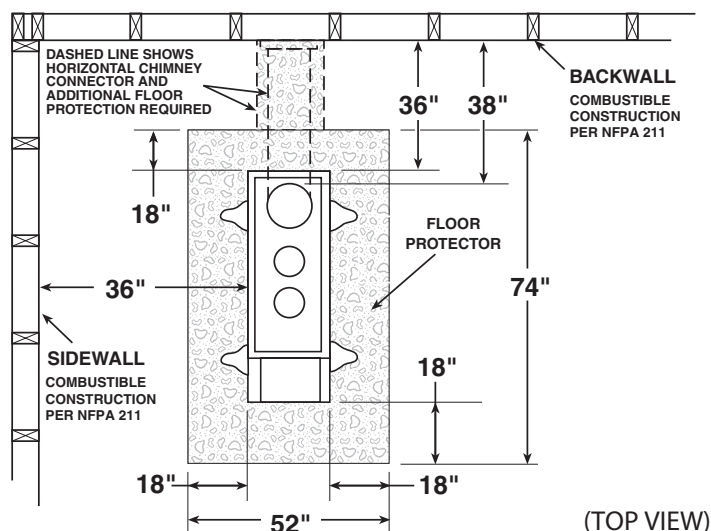

Figure 6 – Minimum Clearance Dimensions from Combustible Surfaces
3. After observing the clearances to combustible materials (figure 6–8), locate your floor protector accordingly and carefully place the stove in your selected location. Install connector pipe, elbows, and thimble as required, utilizing either a recently cleaned and inspected 6" masonry chimney or a 6" i.d. UL 103 HT listed manufactured chimney. Maximum 64 square inches..
4. Use round 6" dia., minimum 24 MSG black or 26 MSG blue steel stove pipe to connect the stove to the chimney. Do not use galvanized stove pipe. Secure connector pipe to the flue collar with three (3) sheet metal screws. Use three screws in each stove pipe and/or elbow joint to firmly hold the pipe
5. Recheck clearances from the stove, connector stove pipe, and corner clearances using the illustrations (figure 6–8) and your local building codes or fire protection ordinances.